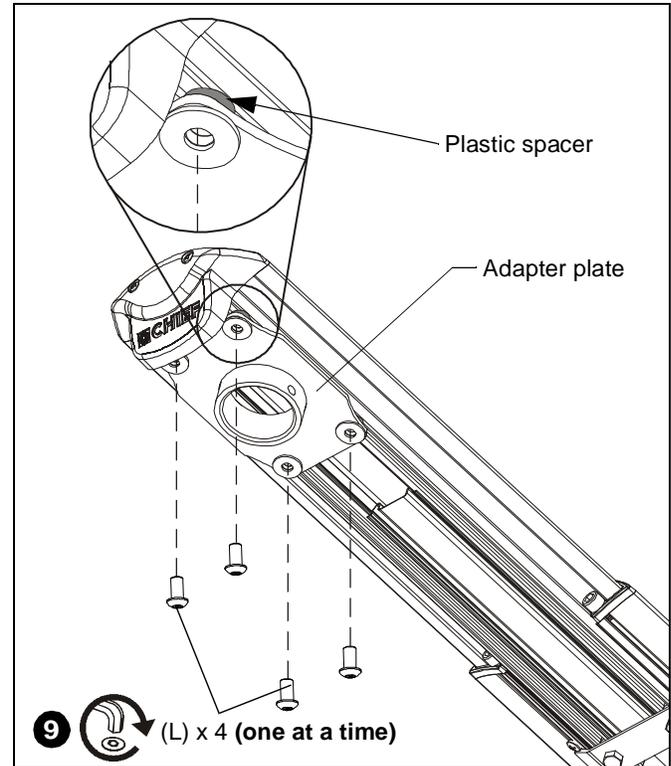

Figure 39
9. Install one 1/4-20 x 3/4" button head security screw (L) into hole vacated by removing bolt in Step 8 and into plastic spacer. (See Figure 39)